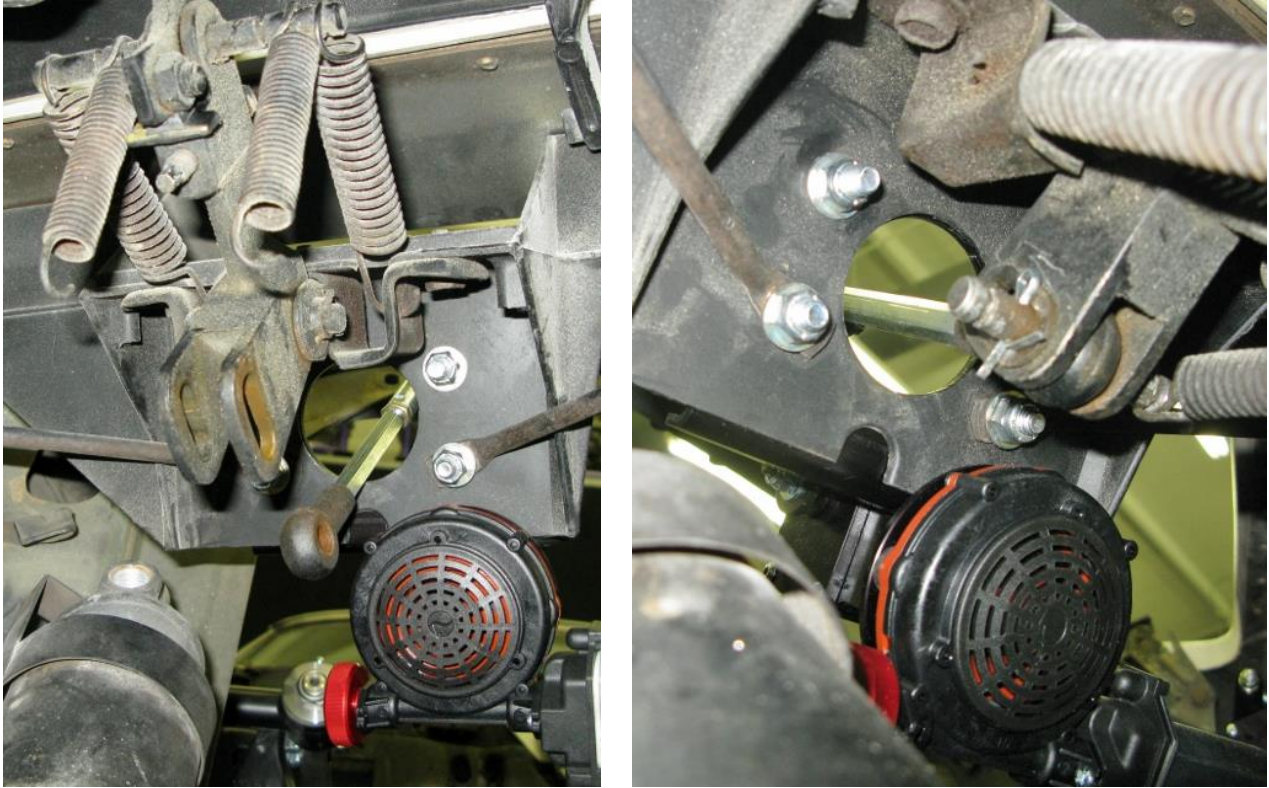

Figure 16 – Install Attachment Pin
13. Adjust the red knob on the actuator if necessary so the clevis lines up with the mount to install the pivot pin that was removed in step 4. Once the pivot pin is installed with the bushings in place, position the washer over the cotter pin side of the pin and install the provided 7/64" x 3/4"L cotter pin. Bend the 2 halves of the cotter pin around the pivot pin in opposite directions to keep it from falling out of the pin (Figure 16).